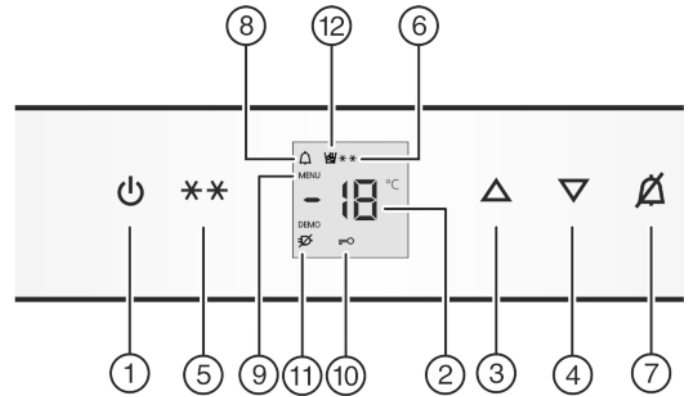

Fig. 2
- Press On/Off button Fig. 2 (1).
- ▶ To activate the setting mode: press SuperFrost button *Fig. 2 (5)* for about 5 s.
- ▷ The menu symbol *Fig. 2 (9)* shines.
- ▶ Briefly press the SuperFrost button *Fig. 2 (5)* to confirm.
- ▶ To activate the child lock, briefly press the SuperFrost button *Fig. 2 (5)*.
- ▷ The child lock symbol *Fig. 2 (10)* shines. **c** flashes in the display.
- ▶ to deactivate the child lock, briefly press the SuperFrost button *Fig. 2 (5)*.
- ▷ The child lock symbol *Fig. 2 (10)* goes out. **c** flashes in the display.
- ▶ To deactivate the set-up mode: press On/Off button *Fig. 2 (1)*.
- ▶ Press alarm button *Fig. 2 (7)*.
The temperature display and the alarm symbol *Fig. 2 (8)* flash at the same time.
The audible alarm is automatically silenced, the alarm symbol *Fig. 2 (8)* goes out and the temperature display stops flashing when the temperature is sufficiently cold again.